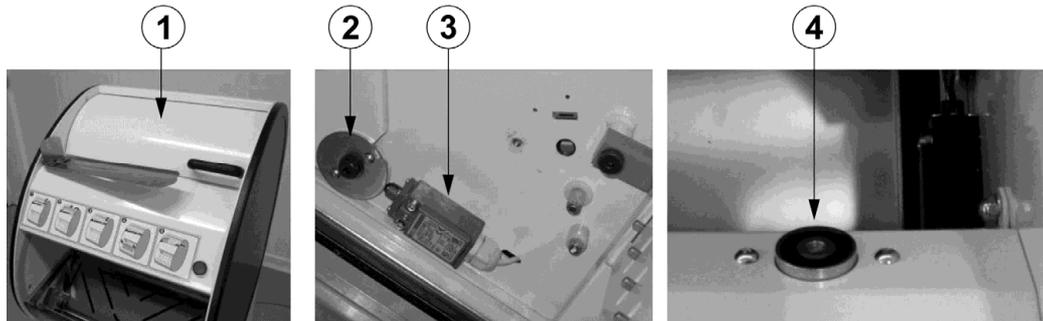

Figure 17
1. **Interlocked top mobile guard** ref. 1 Figure 17, which makes it impossible to reach the blades and the bread pusher when they are moving. Its fully closed position is checked by a microswitch ref. 3 controlled by the cam ref. 2. Its “locked” position is achieved by means of the electromagnet ref. 4, and only in this case is the command given to start the pusher and the cutting blades. If the cover is forced open, the associated safety system commands the emergency stop of the machine and cuts power to all parts that would otherwise be dangerous as long as the cover remains open. When it is closed it automatically resets the machine, returning the bread pusher to start position.